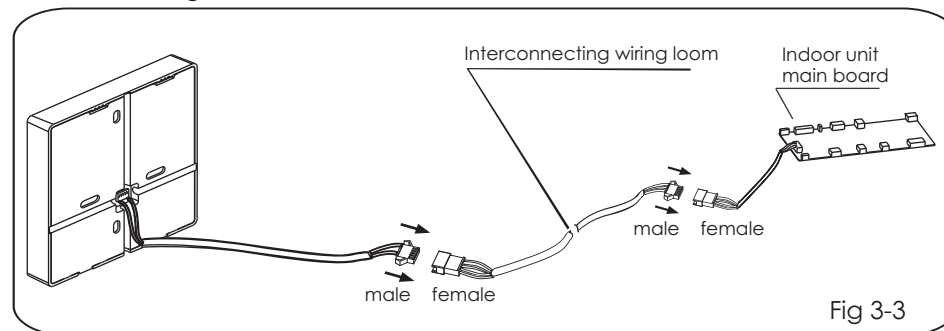

Fig 3-3
1. Connect the female wiring connector from the indoor unit main board with the male connector of the interconnecting wiring loom. (See Fig.3-3)
2. Connect the other end of the interconnecting wiring loom to the male wiring connector from the wired control. (See Fig.3-3)